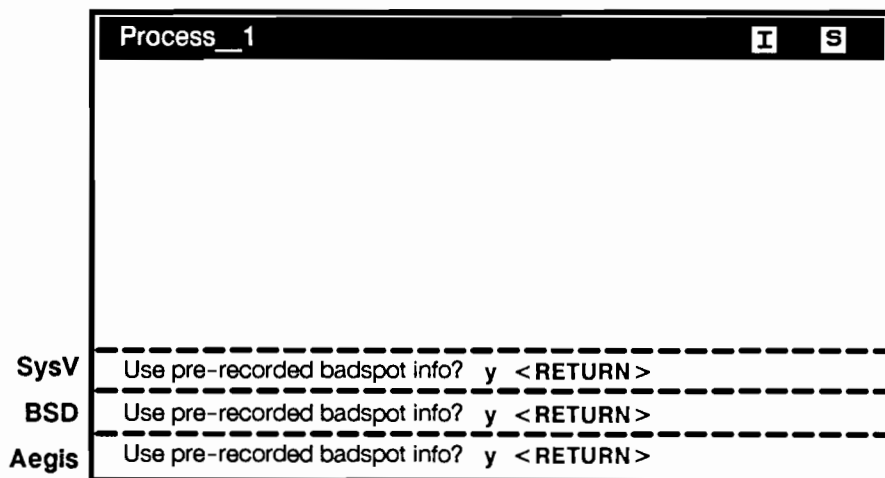

Figure 6-31. invol Prompt To Use Pre-Recorded Badspot List
- 15.** The **invol** utility then asks if you want to use the pre-recorded badspot information as shown in Figure 6-31.
Respond by typing **y** as shown in Figure 6-31. Do *not* answer **n** (no) to this prompt. If you do, **invol** overwrites any existing badspot list.